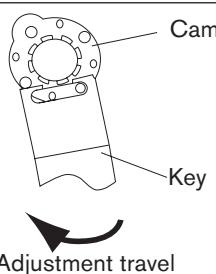
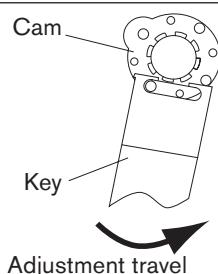

Fig. 14: Adjusting limit switch clockwise
Fig. 15: Adjusting limit switch anti-clockwise
- Adjust the two upper cams with a suitable key (see "Fig. 14" and "Fig. 15").